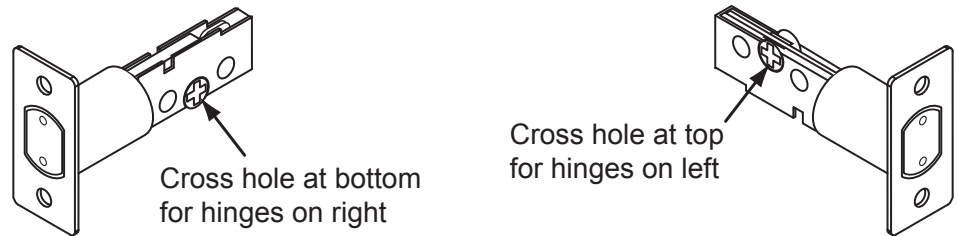

Figure 7
- For a door with hinges on the right, install deadbolt with the cross hole at the bottom. For a door with hinges on the left, install the deadbolt with the cross hole on top (Figure 7).
- Mark and drill two $\frac{3}{32}$ " (2 mm) pilot holes for the two faceplate screws ⑨, insert the deadbolt properly and install the screws. The deadbolt face plate should be flush with the edge of door not sticking out from the surface of the edge of the door.